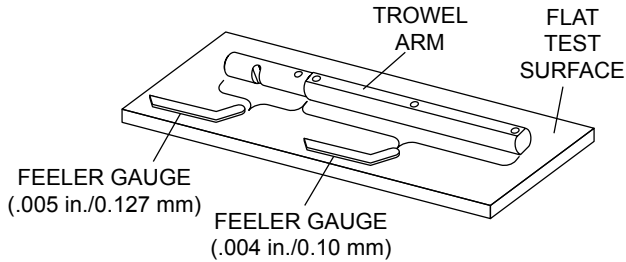

Figure 41. Checking Trowel Arm Flatness
2. Check each of the six sides of the trowel arm (hex section). A feeler gauge of .004" (0.10 mm) should not pass between the flat of the trowel arm and the test surface along its length on the test surface. (Figure 41).